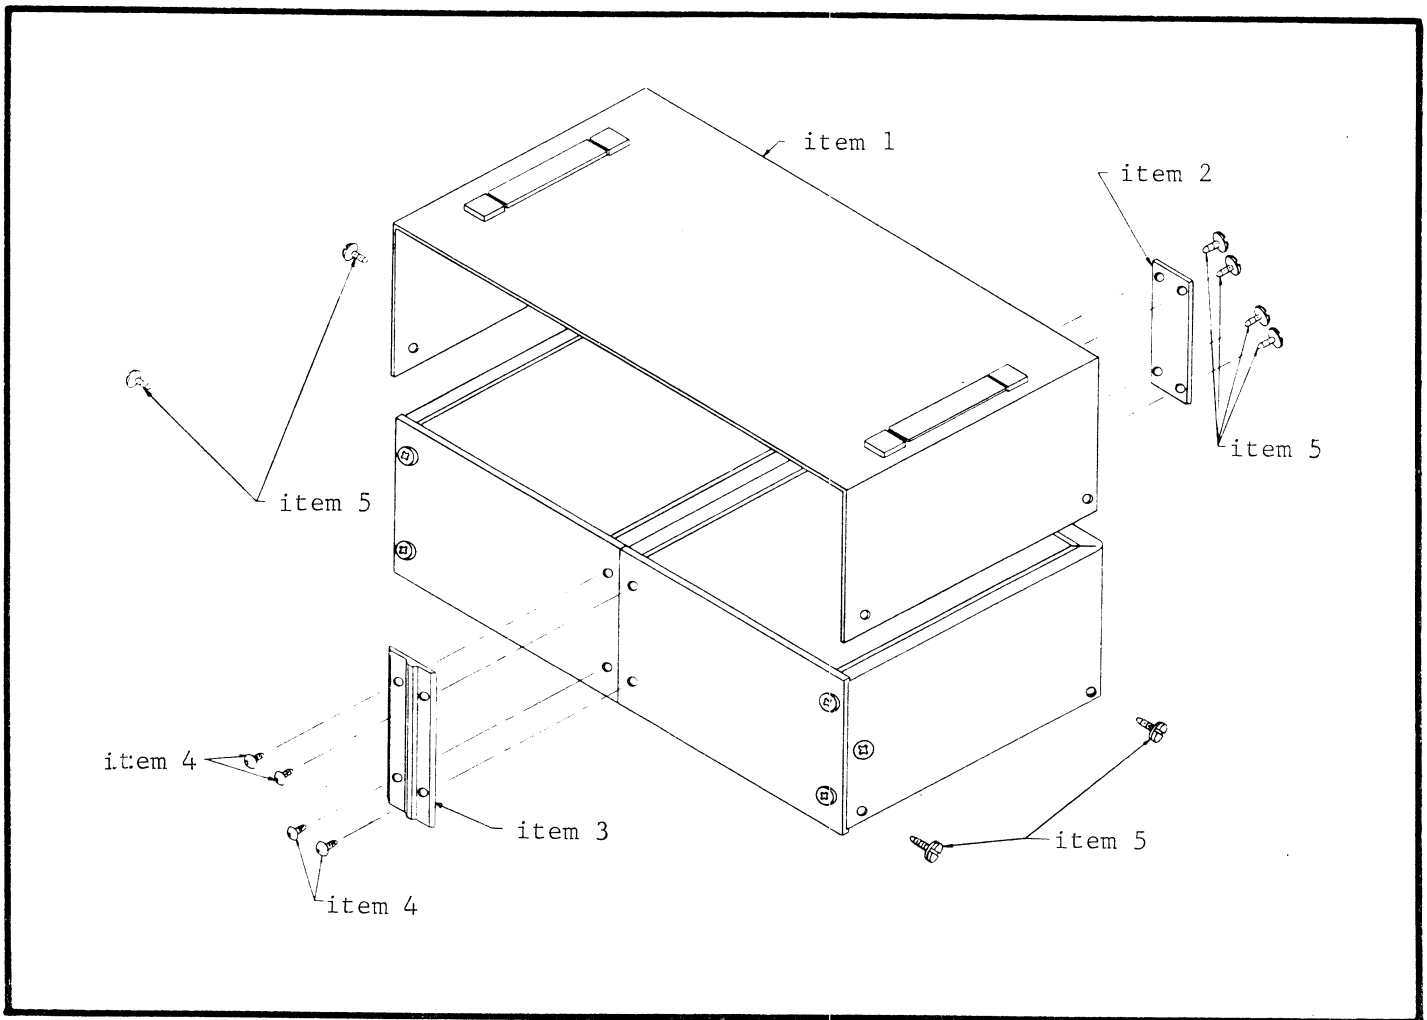

FIGURE 18. Assembly Drawing for Model 3004 Dual Bench Mounting Kit.
b. Procedures. Remove the wrap-around cover on each Source by removing the two corner screws at the bottom of each side. Assemble the Kit as shown in Figure 18. Attach in this order: chassis connecting plate (2), chassis connecting plate (3), and cover (1).